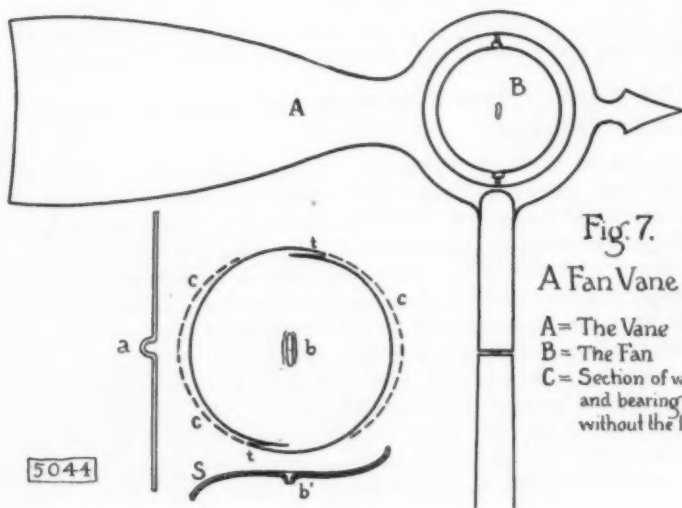

Fig. 7.
THE FAN VANE. Fig. 7. This requires a shingle 4 1-2" wide, a piece of wire 4 1-2" long, a circular piece of tin (from an old tin can, perhaps), a piece of wood 7-8" square and 5" long. At home a pole will be required, if the vane is to be used,—a pole at least 1" in diameter at the top with a rod of some sort slightly less than 1-4" in diameter. (1) Draw on the shingle the lines of the vane. The tail and head offer opportunities for original work. Cut out the form with a coping saw or jackknife. (2) Bend the wire as shown at a. Cut out the elliptical pieces of tin as indicated by the dotted line ccc (dull common scissors will do it). Punch the hole, b, with a screw driver, large enough to receive a. Cut the little tails, t, t, and bend the tin so that in top view it will form a reversed curve, as shown at 3. Place the wire (a) in position and with a nail set force the edges of the tin, bb', back into their original position, to clamp the tin to the wire within the loop a. Wind the tails, tt, around the wire, one one way and one the other. (3) Make C, according to the drawing.